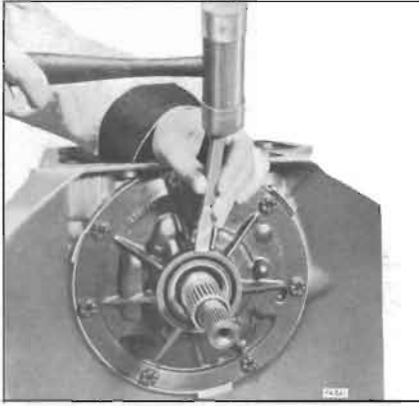

Figure 74-541
1. If seal replacement is necessary, pry seal from pump. See Figure 74-541.